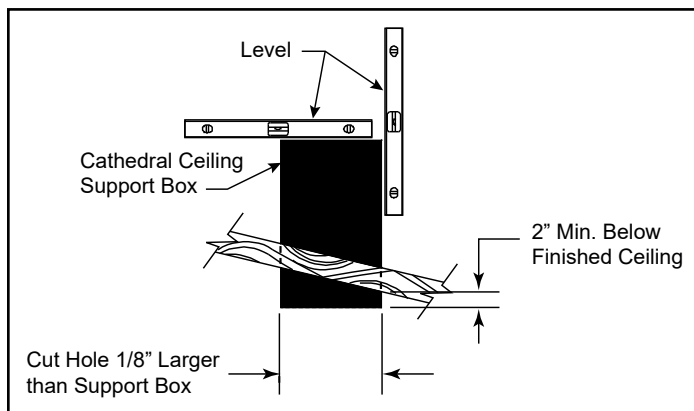

Figure 3.39
Step 4 - Lower the support box through the hole in the roof until each side of the bottom of the support box protrudes at least 2" (51 mm) below the ceiling, Figure 3.39. Align the support box both vertically and horizontally with a level. Temporarily tack the support box in place through the inside walls and into the roof sheathing.